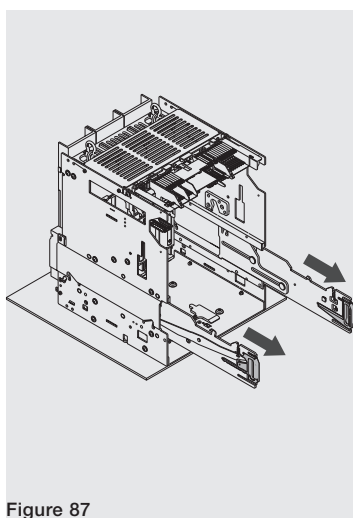

Figure 87
3. Extract the guides of the fixed part using the appropriate levers. See Figure 87.